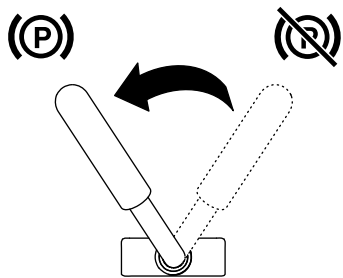

Figure 15
- To engage the parking brake, rotate the lever to left (Figure 15).